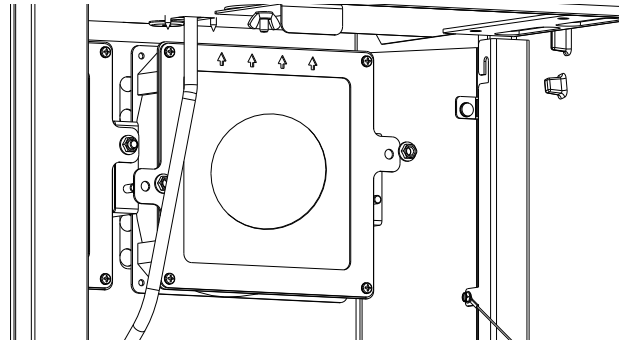

Figure 10.9. Install the right side blower.
5. Attach the Blower to the brackets using two M6 flange nuts as shown in fig 10.9.